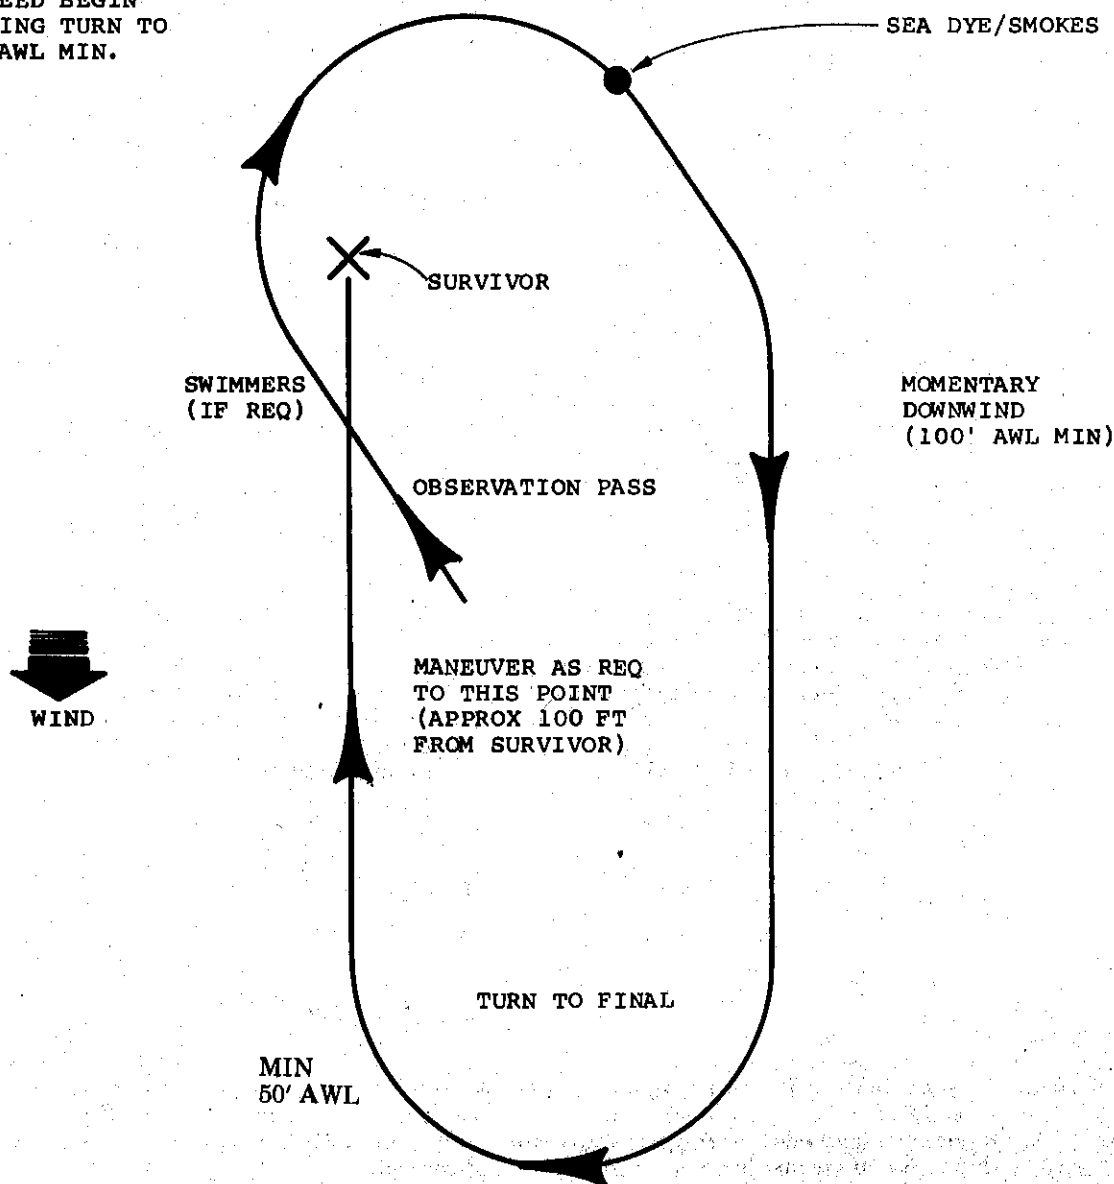

Figure 16-1. Typical Water Hoist Pattern—H-3/H-53/H-60A.
(1) Complete pilot's hoist recovery checklist and hoist operator's checklist prior to final approach.
(2) After initial sighting of the survivor, maneuver to a position approximately 100 feet downwind of the survivor from which an observation pass can be accomplished (figures 16-1 and 16-2). If the survivor's condition is unknown or swimmer deployment is anticipated, the observation pass will be